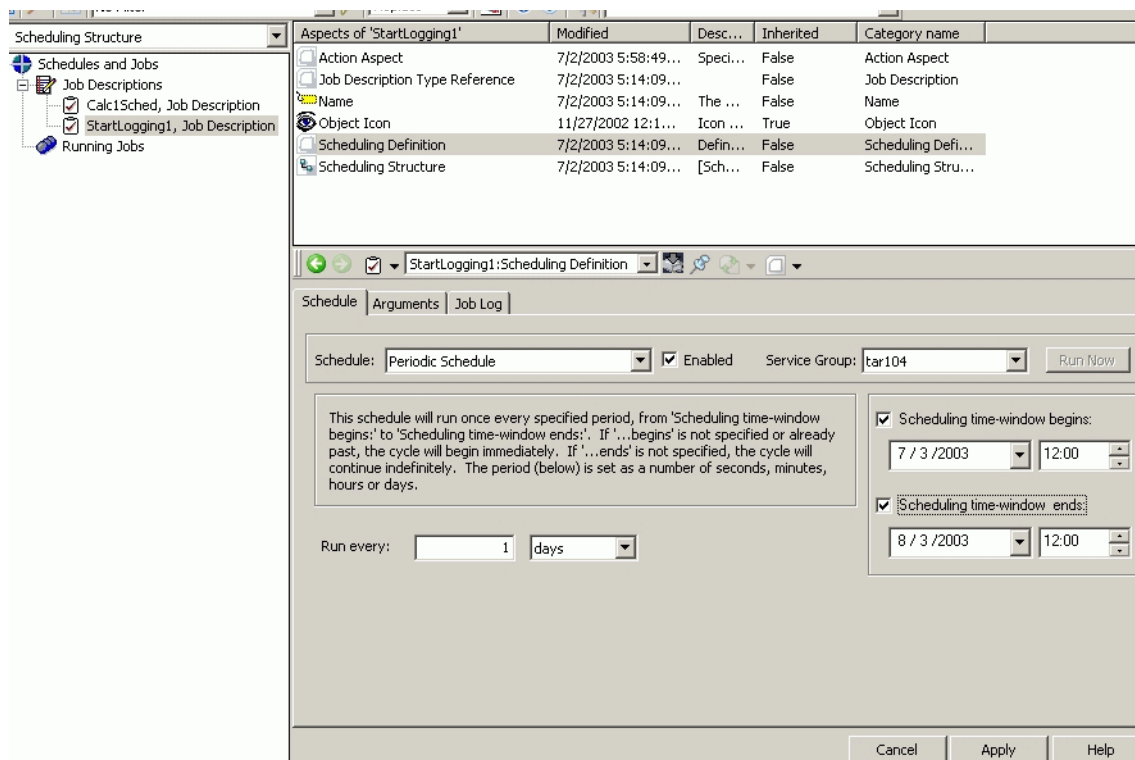

Figure 138. Scheduling Definition Configuration View
5. Click on the **Scheduling Definition** aspect to display the configuration view, Figure 138. This figure shows the scheduling definition aspect configured as a periodic schedule. The trigger event will occur once every day, starting July 3rd at 12:00 PM, and continuing until August 3rd at 12:00 PM.